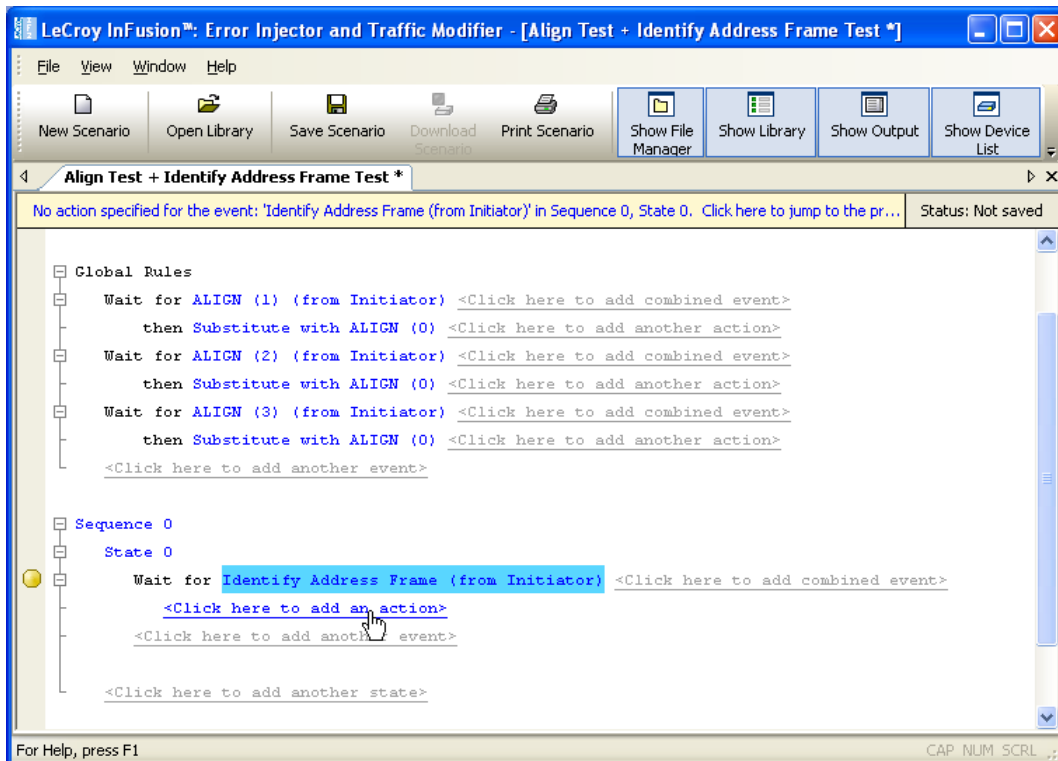

Figure 5.39 Example 7: Adding an Action for the First State
- Step 7** In the State 0 area, click on the prompt to **add an action** (Figure 5.39).
Note: Figure 5.39 shows the Global Rules area of the scenario.